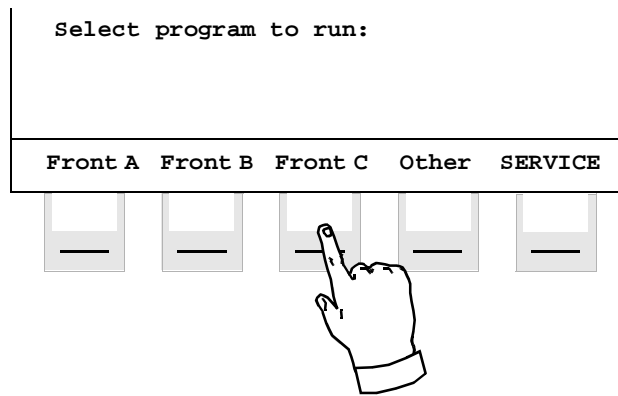

Figure 10 Operator dialogs can be tailor-made to suit any robot installation.
- If text is displayed above the function keys, you can give your answer by pressing the desired alternative (see Figure 10).
The dialog window shown in Fig. 10 can only be exited in one of two ways, either by answering the question or by stopping program execution.